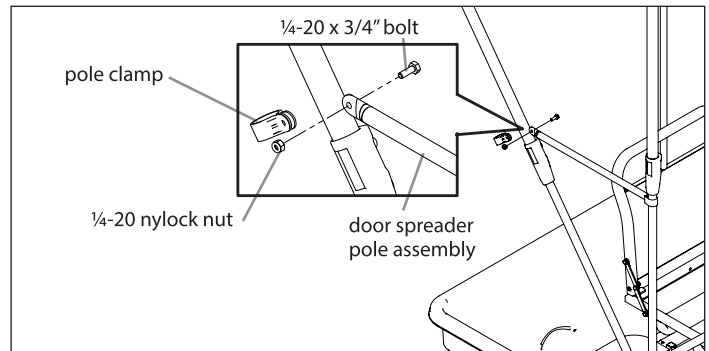

FIGURE 13
19. Attach the rear side spreaders (15706) to the rear upper cross brace. The attachment is similar to the previous spreader pole assemblies. Repeat assembly for other side also attaching to the rear upper cross brace. Once both spreader poles are in place clip them to the middle upper cross brace. This will make the middle upper cross brace self-supporting. **SEE FIGURE 13**